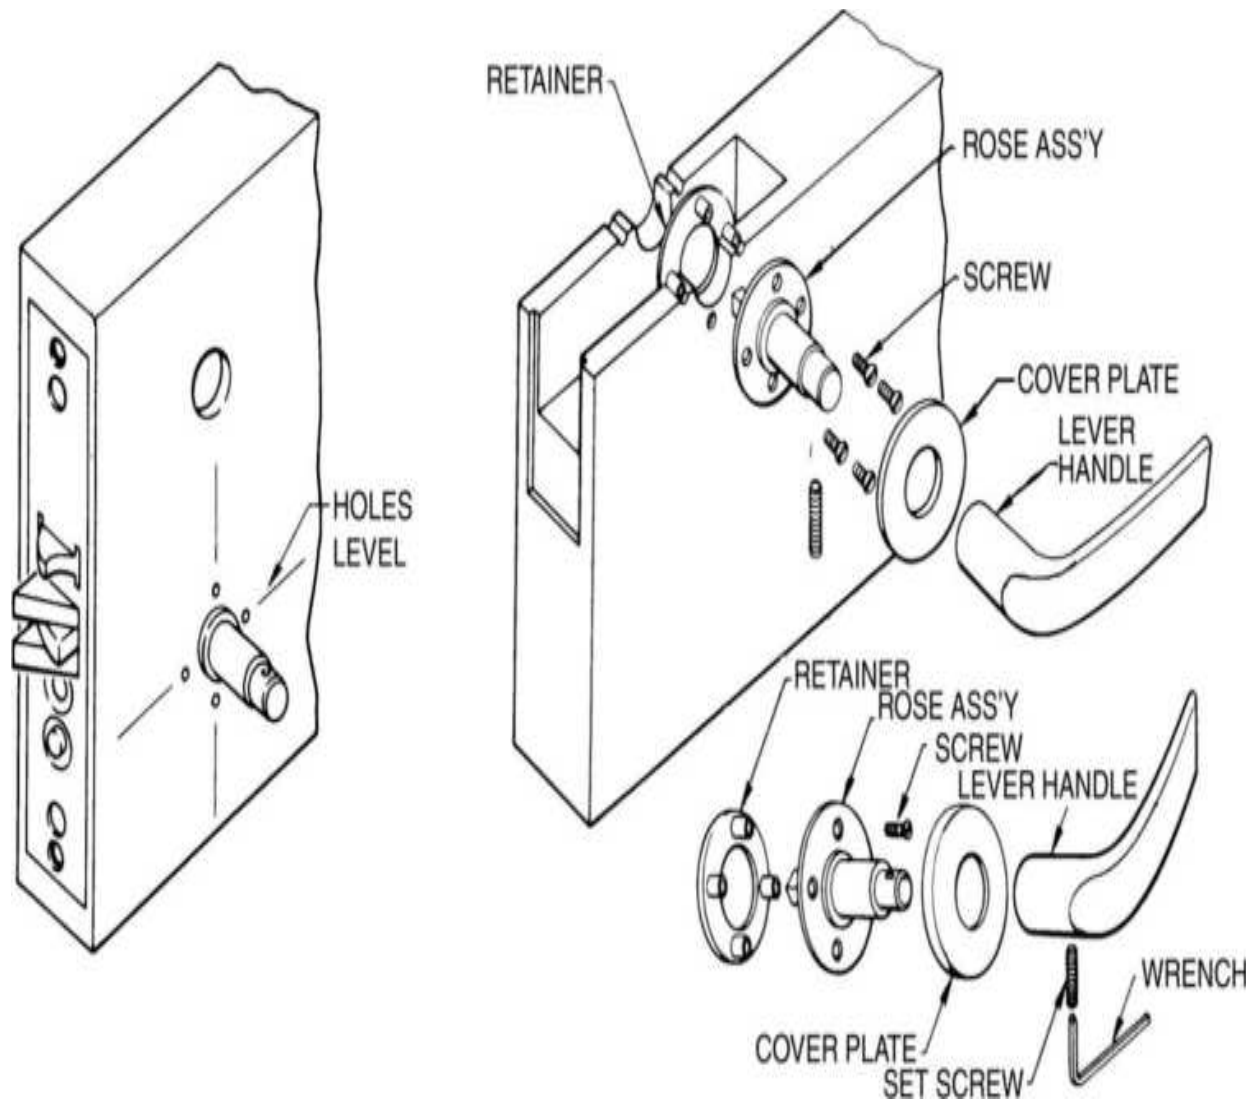

**Figure 13.36** Installing lever handle.
2. Place the rose assembly spindle into the lock hub. The label shows the top and latch edge. Spot four screw holes through the assembly plate (Fig. 13.36 ). Make sure that the latchbolt operates freely. Drill holes very carefully.